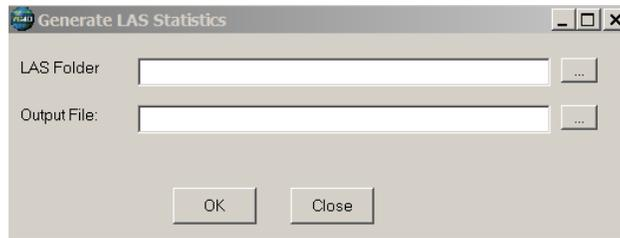

Figure 26: Generation of LAS Statistics
- Select Tools ->Analysis Tools ->Generate LAS Statistics. A dialog box opens as shown in Figure 26